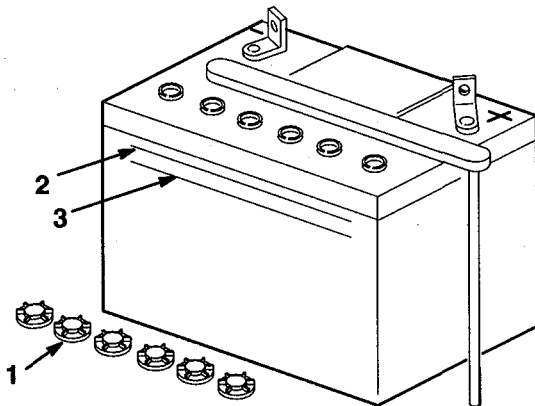

Figure 22
2. Look at the side of the battery. The electrolyte must be up to the "UPPER" line (Fig. 22). Do not allow the electrolyte to get below the "LOWER" line (Fig. 22).
2. Unscrew the filler caps (Fig. 22).
3. Slowly pour distilled water into each battery cell until the level is up to the "UPPER" line (Fig. 22) on the battery case.